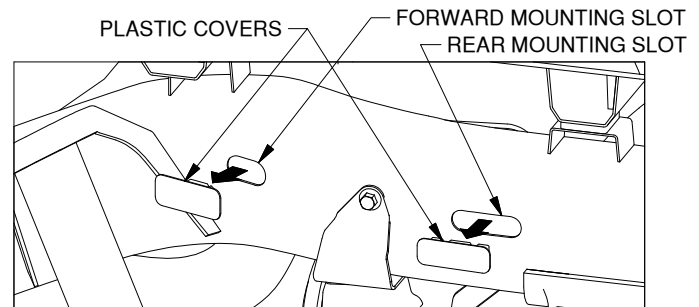
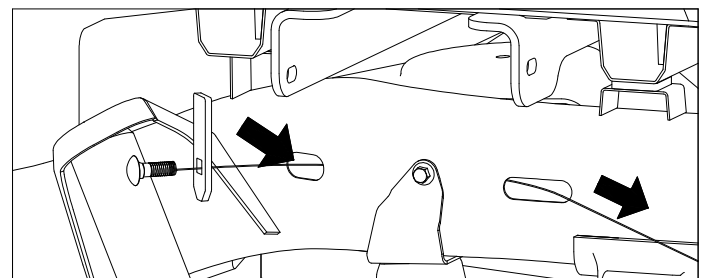
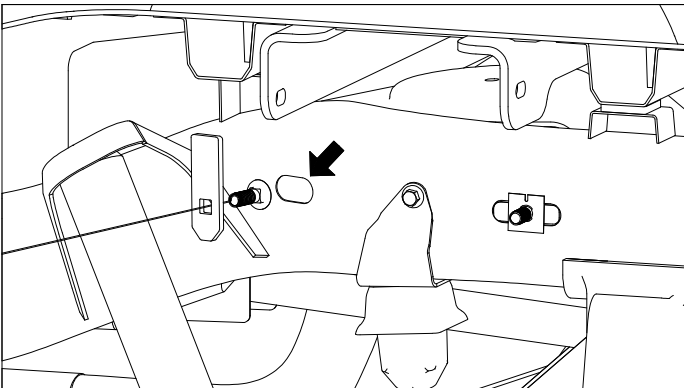
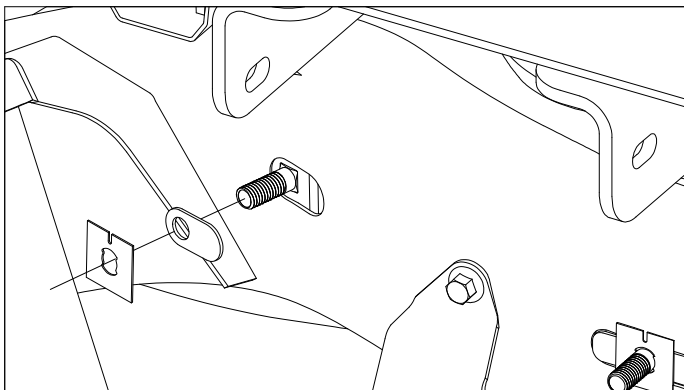

Figure A9: View looking into driver side wheel well.
Figure A10: View looking into driver side wheel well.
Figure A12: View looking into driver side wheel well.
Figure A13: View looking into driver side wheel well.
13. **Prepare to install carriage bolts.** Locate the plastic slot covers inside each rear wheel well, as shown in Figure A9. Remove four covers by prying them out of the frame. Discard the covers.
14. **Fish rear carriage bolt.** Locate the forward and rear mounting slots shown in Figure A9. Thread a 1/2" x 1-1/2" carriage bolt and locking strap onto a fish wire. Pass the fish wire from the forward mounting slot through the frame and out of the rear mounting slot, as shown in Figure A10.
- 16. Install forward carriage bolt.** Locate the forward mounting slot shown in Figure A9. Thread a carriage bolt and locking strap onto a fish wire. Insert the carriage bolt and locking strap through the mounting hole until both are completely inside the frame and only the carriage bolt is passing through the hole, see Figure A12. Install the oval frame spacer onto the bolt and place it into the slot in the frame, as shown in Figure A13. Thread a retainer onto bolt until it is snug. Repeat Steps 14-15 on other side of truck.